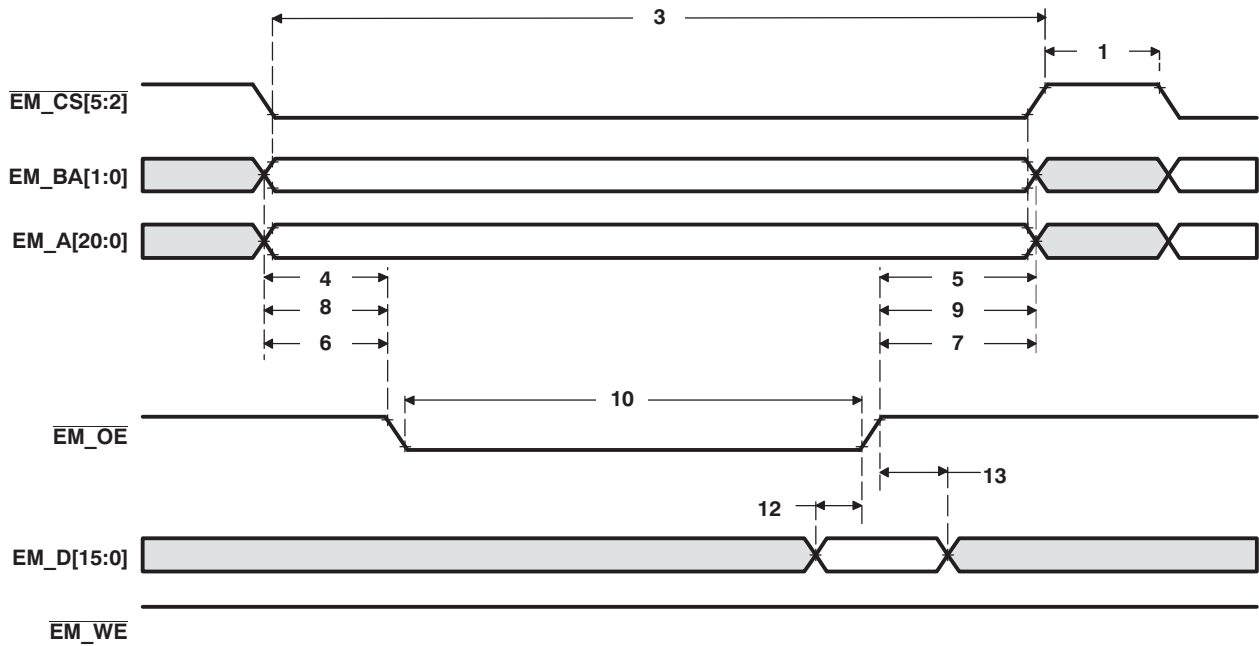
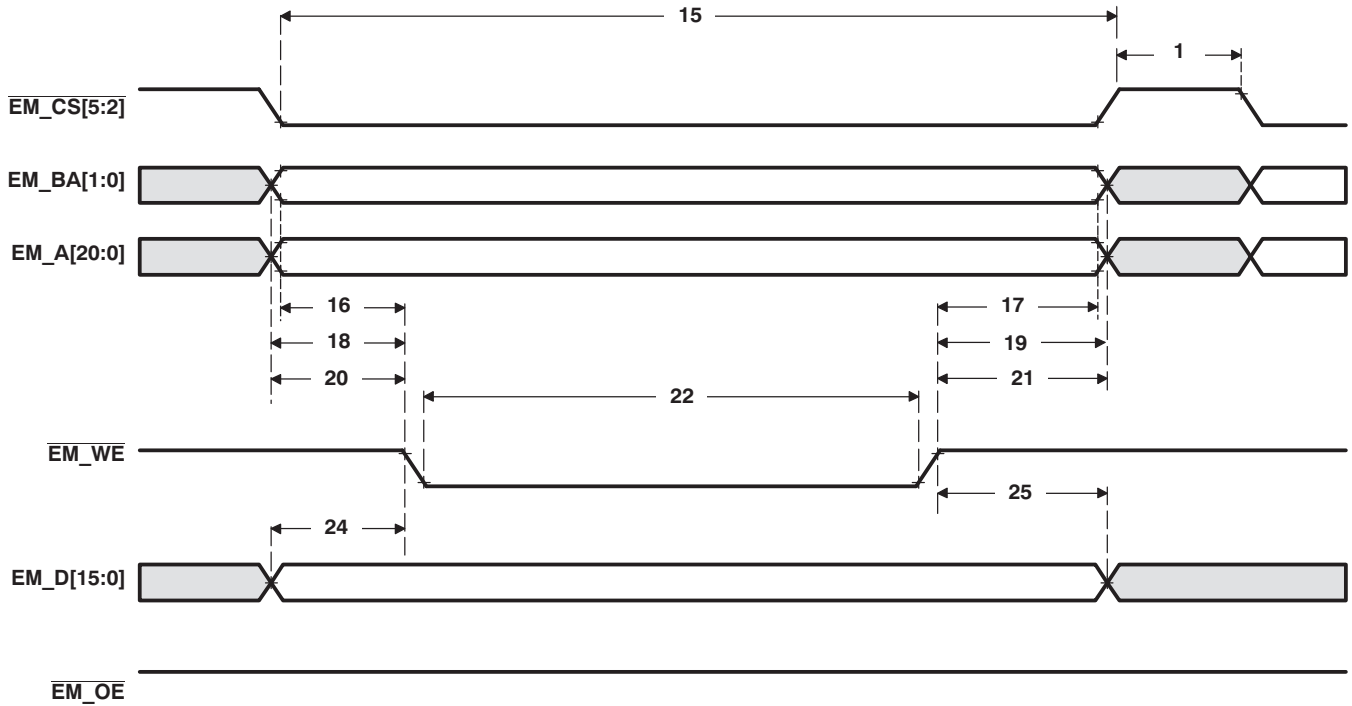
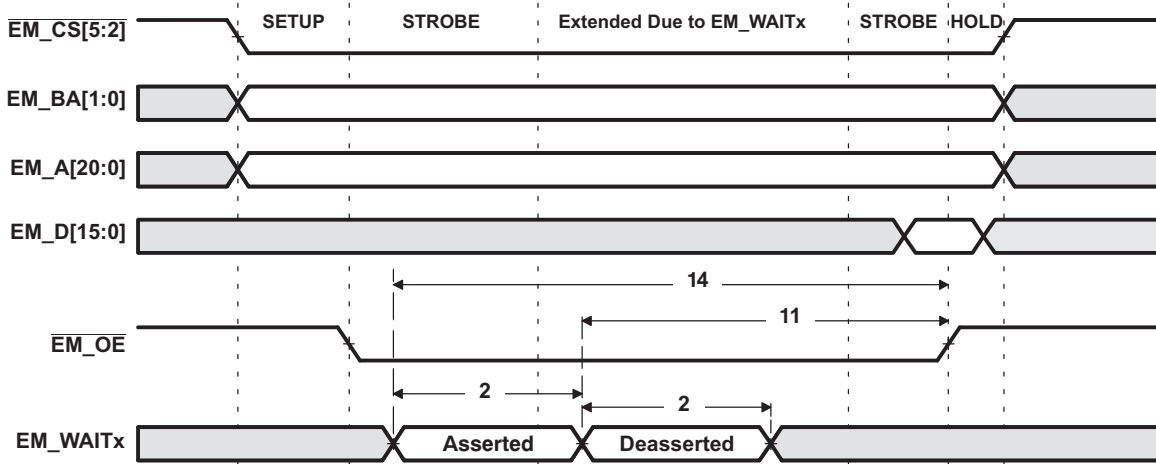
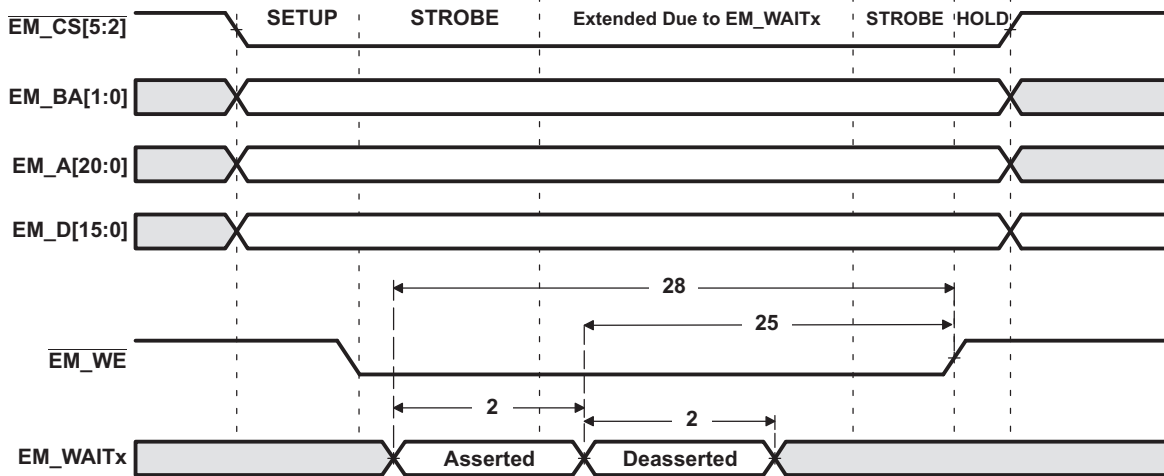

Figure 5-18. Asynchronous Memory Read Timing for EMIF
Figure 5-19. Asynchronous Memory Write Timing for EMIF
Figure 5-20. EM\_WAITx Read Timing Requirements
Figure 5-21. EM\_WAITx Write Timing Requirements
- (1) Timing parameters are obtained with 10pF loading on the EMIF pins.
- (2) TA = Turn around, RS = Read setup, RST = Read strobe, RH = Read hold, WS = Write setup, WST = Write strobe, WH = Write hold, MEWC = Maximum external wait cycles. These parameters are programmed via the Asynchronous Configuration and Asynchronous Wait Cycle Configuration Registers.
- (3) E = SYSCLK period in ns. For example, when SYSCLK is set to 100/120 MHz, E = 10/8.33 ns, respectively.
- (4) EWC = external wait cycles determined by EM\_WAITx input signal. EWC supports the following range of values EWC[256-1]. Note that the maximum wait time before timeout is specified by bit field MEWC in the Asynchronous Wait Cycle Configuration Register.
**Table 5-15. Switching Characteristics Over Recommended Operating Conditions for EMIF Asynchronous Memory(1)(2) (3) (see Figure 5-19 and Figure 5-21)(4) (continued)**
(1) Timing parameters are obtained with 10pF loading on the EMIF pins.
(2) E = SYSCLK period in ns. For example, when SYSCLK is set to 60 or 100 MHz, E = 16.67 or 10 ns, respectively. For more detail on the EM\_SDCLK speed see Section 5.9.2, EMIF Non-Mobile and Mobile Synchronous DRAM Memory Supported.
(3) When  $V_{DD} = 1.3\text{ V}$ , and  $DV_{DDEMIF} = 3.3\text{ V}$ , 2.75 V or 2.5 V, the max clock frequency on the EM\_SDCLK pin is limited to 100 MHz (EM\_SDCLK = 100 MHz). For more information, see TMS320C5515/14/05/04 DSP External Memory Interface (EMIF) User's Guide (literature number SPRUGU6).
(4) When  $DV_{DDEMIF} = 1.8\text{ V}$ , the max clock frequency on the EM\_SDCLK pin is limited to 50 MHz (EM\_SDCLK = 50 MHz). For more information, see TMS320C5515/14/05/04 DSP External Memory Interface (EMIF) User's Guide (literature number SPRUGU6).
**Table 5-18. Timing Requirements for EMIF Asynchronous Memory(1)(2) (see Figure 5-18, Figure 5-20, and Figure 5-21)**
(2) E = SYSCLK period in ns. For example, when SYSCLK is set to 100/120 MHz, E = 10/8.33 ns, respectively.
(3) Setup before end of STROBE phase (if no extended wait states are inserted) by which EM\_WAITx must be asserted to add extended wait states. Figure 5-20 and Figure 5-21 describe EMIF transactions that include extended wait states inserted during the STROBE phase. However, cycles inserted as part of this extended wait period should not be counted; the 4E requirement is to the start of where the HOLD phase would begin if there were no extended wait cycles.
**Table 5-19. Switching Characteristics Over Recommended Operating Conditions for EMIF Asynchronous Memory(1)(2) (3) (4) (see Figure 5-18, Figure 5-20, and Figure 5-21)**
(2) TA = Turn around, RS = Read setup, RST = Read strobe, RH = Read hold, WS = Write setup, WST = Write strobe, WH = Write hold, MEWC = Maximum external wait cycles. These parameters are programmed via the Asynchronous Configuration and Asynchronous Wait Cycle Configuration Registers.
(3) E = SYSCLK period in ns. For example, when SYSCLK is set to 100/120 MHz, E = 10/8.33 ns, respectively.
(4) EWC = external wait cycles determined by EM\_WAITx input signal. EWC supports the following range of values EWC[256-1]. Note that the maximum wait time before timeout is specified by bit field MEWC in the Asynchronous Wait Cycle Configuration Register.
Table 5-19. Switching Characteristics Over Recommended Operating Conditions for EMIF Asynchronous Memory(1)(2) (3) (4) (see Figure 5-18, Figure 5-20, and Figure 5-21) (continued)